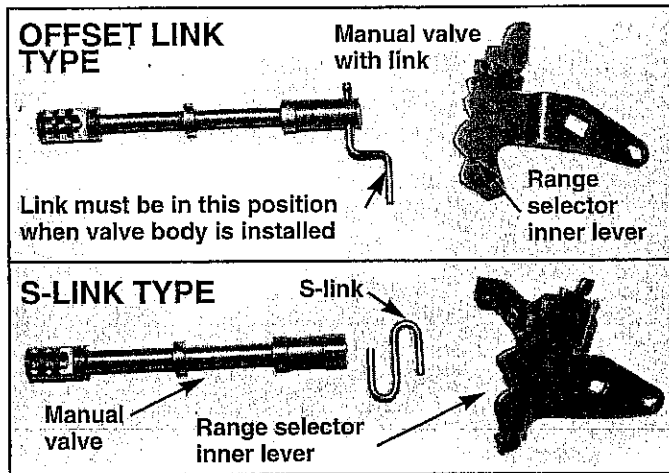
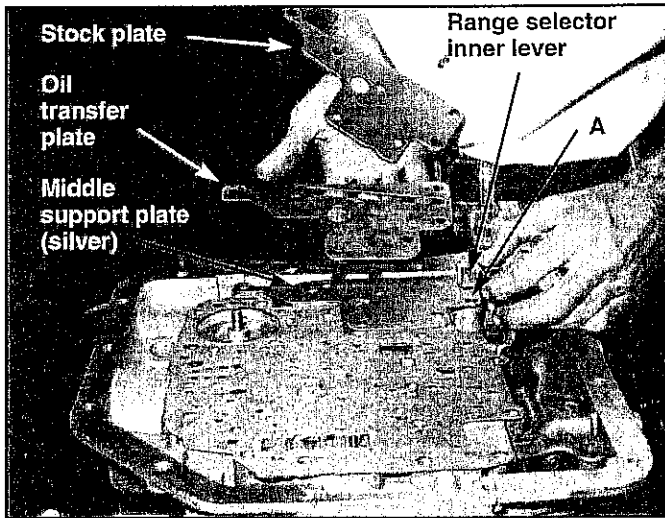

FIGURE 54
FIGURE 57
STEP 28. Install new range selector shaft seal in position on the outside of the range selector shaft bore in the case. Drive the new seal in place using a 1/2" socket or suitable tool as a driver. Install shaft into bore. Install range selector inner lever. There are two types: (See Fig. 54)
STEP 34. Install B&M Middle Support Plate (silver) in position against Separator Plate Gasket at front of transmission (See Fig. 57), and on top of that, position slotted oil transfer plate (gold). Note that holes in Separator Plate, Separator Plate Gasket, Middle Support Plate and slot in oil transfer plate all coincide.
STEP 35. Install stock spacer support plate on top of oil transfer plate. (Order of plates must be correct!) Install seven spacer support plate bolts finger tight. Aligning separator plate to case bolt holes as best as possible, secure the seven spacer support bolts to 100 lb. in. "S" Link Model (See Fig. 54) manual valve range selector inner lever may contact bolt A (See Fig. 57). If lever does not clear by 1/16", mark bolt head interference area and remove bolt and grind a flat angle on bolt head. Check clearance again.
if so equipped. Guide valve body into position. Engage manual valve link into range selector inner lever. S-links can only be installed one way. Off-set linkage must be installed with the link in the forward position. (See Fig. 54) Install valve body bolts finger tight. Install detent roller spring so it engages the range selector inner lever. (See Fig. 3)
STEP 37. Tighten valve body bolts to 100 lb. in. Make sure shifter operates freely at this point. The shaft should rotate smoothly with positive indexing in each gear. "S" Linkage Model manual valve only (See Fig. 54). Rotate Range Selector to Park position. Range Selector Inner lever should clear bolt B (See Fig. 3) and detent roller fully indexed into Range Selector inner lever's detent slot. If there is interference, remove bolt and grind small amount off top for clearance. Check clearance again.